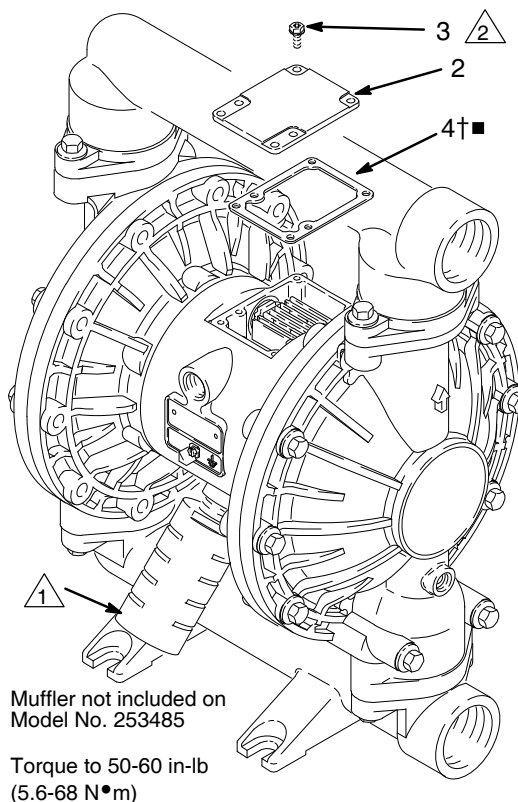

FIG. 6
2. With a Torx (T20) screwdriver or 7 mm (9/32 in.) socket wrench, remove the six screws (3), air valve cover (2), and gasket (4). See FIG. 6.
10. Align the valve gasket (4†■) and cover (2) with the six holes in the center housing (1). Secure with six screws (3), using a Torx (T20) screwdriver or 7 mm (9/32 in.) socket wrench. Torque to 50-60 in-lb (5.6-6.8 N•m). See FIG. 6.